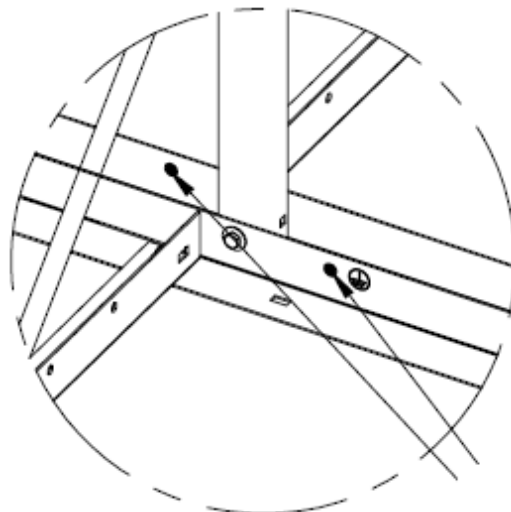

Figure 36: Tearing off the grounding stickers
6. Tear off the two grounding hole stickers on either side of the mast pole, as shown in Figure 36.